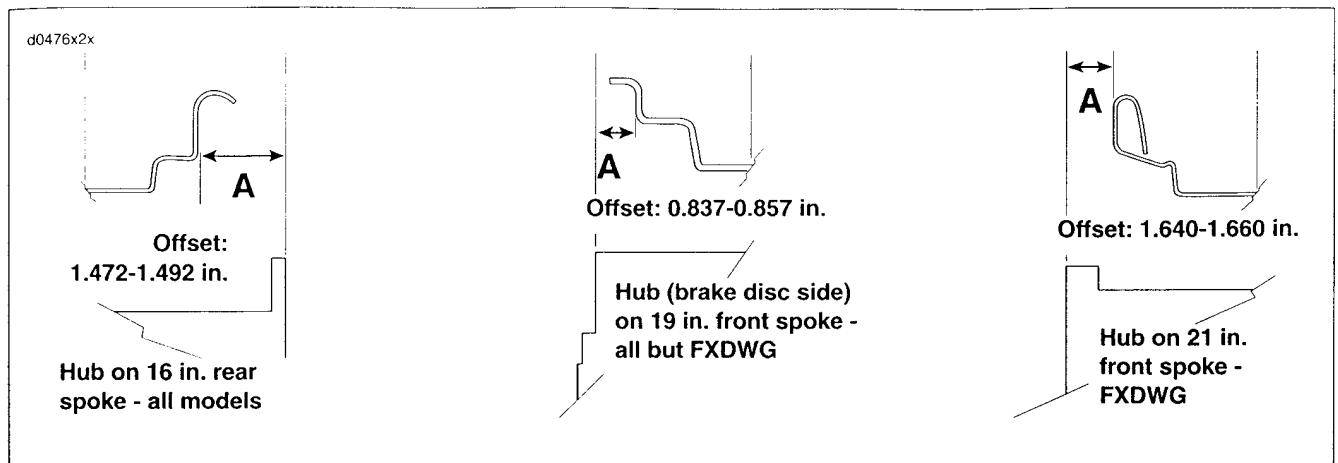

Figure 2-51. Laced Hub Offset Dimension
- Lay a straightedge across hub brake disc flange and one of the marked spoke groups. Measure distance "A" from the straightedge to the location shown in Figure 2-51.